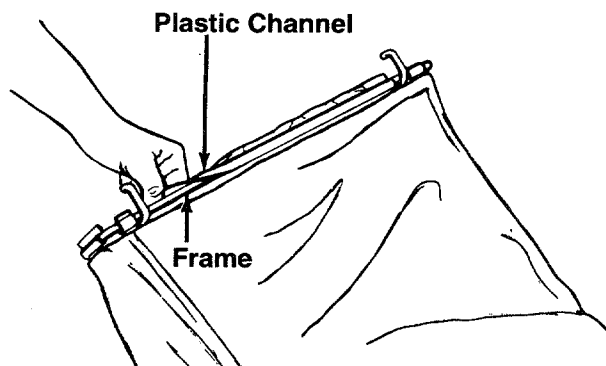

FIGURE 13.
3. Secure front of bag to frame by working the plastic channels on bag over frame. See figure 13.